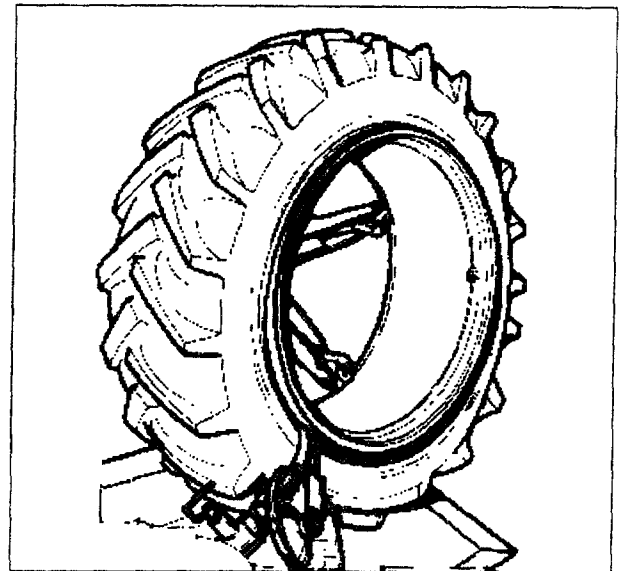

Fig.48
7. Turn the chuck counter-clockwise until the outer bead is completely demounted (Fig.48).